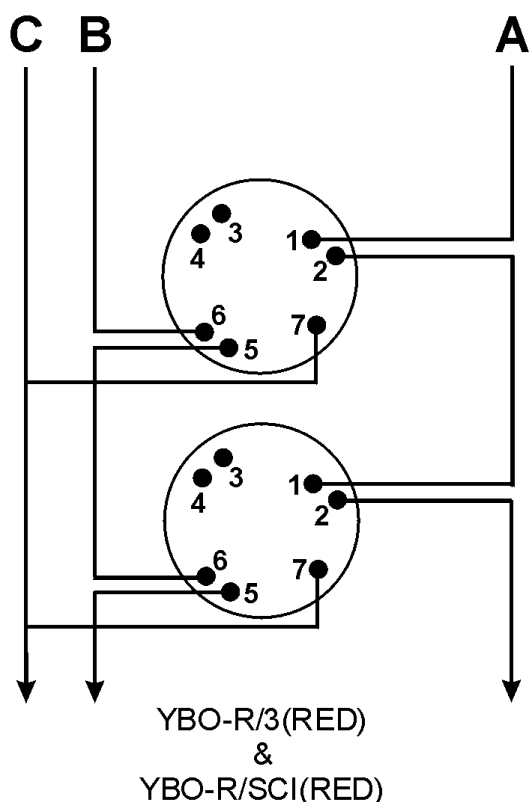

Fig. 4
- ❑ For proper wiring supervision ensure that the cables are wired as shown in Fig 4.
Fix the mounting base to the required surface using appropriate fixings. For correct wiring of the each base type, refer to Fig. 4.
Please refer to Fig. 4 for wiring the Red Standard Mounting Base (YBO-R/3(RED)) and the Red Short-Circuit Isolator Mounting Base (YBO-R/SCI(RED)):